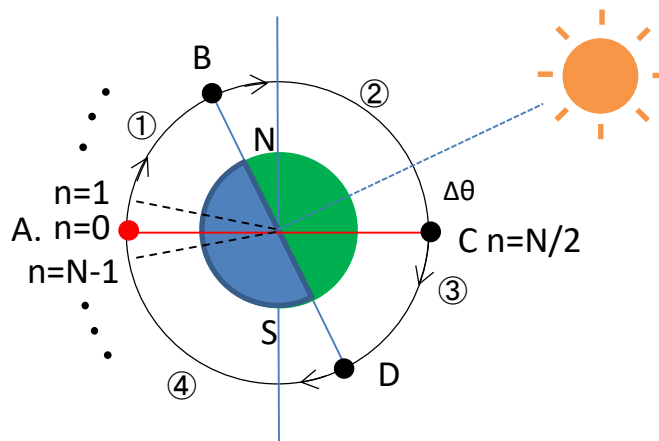

Figure 2.2-1 Unit of Level 1A/1B products and FTS-2 observation mode in a scene
(1) For observation mode (day/night) product, one scene data is defined as 1/4 data of one satellite revolution from ascending node as Figure 2.2-1.
- ① From ascending node (A) to the end of night observation(B)